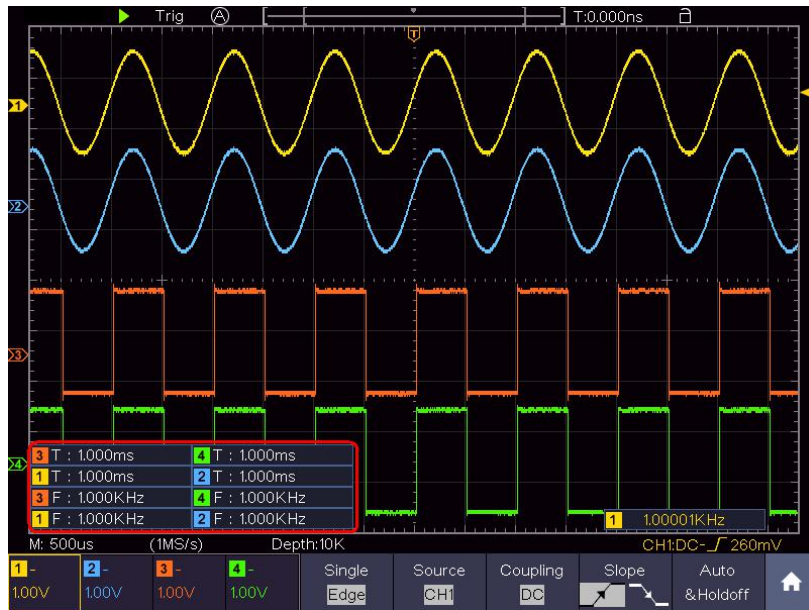

Figure 7- 1 Measure period and frequency value for a given signal
- (1) Push the **Autoset** button and the oscilloscope will automatically adjust the waveforms of the two channels into the proper display state.
- (2) Push the **Measure** button to show the Measure menu.
- (3) Select **Add** in the bottom menu.
- (4) In the left Type menu, turn the **M** knob to select **PK-PK**.
- (5) In the right menu, select **CH1** in the **Source** menu item.
- (6) In the right menu, select **Add**. The peak-to-peak type of CH1 is added.
- (7) In the left Type menu, turn the **M** knob to select **PK-PK**.
- (8) In the right menu, select **CH2** in the **Source** menu item.
- (9) In the right menu, select **Add**. The peak-to-peak type of CH2 is added.
- (10) Read the peak-to-peak voltages of Channel 1 and Channel 2 from the bottom left of the screen (see *Figure 7- 2*).
- (11) Calculate the amplifier gain with the following formulas.
The signal displayed on the screen containing some noise, by turning on Peak Detect function and changing time base to slow down the incoming signal, any peaks or burr would be detected by the function (see *Figure 7- 4*).
User would see a much reduced random noise level and make it easy to see more details of the signal itself. After applying Average, user can easily identify the burrs on the rising and falling edges of some part of the signal (see *Figure 7- 5*).
- (1) Push the **Trigger Menu** button to display the trigger menu.
- (2) Select the first menu item in the bottom menu. Select **Single** in the right menu.
- (3) In the left menu, select **Video** as the mode.
- (4) Select **Source** in the bottom menu. Select **CH1** in the right menu.
- (5) Select **Modu** in the bottom menu. Select **NTSC** in the right menu.
- (6) Select **Sync** in the bottom menu. Select **Field** in the right menu.
- (7) Turn the **Vertical Scale**, **Vertical Position** and **Horizontal Scale** knobs to obtain a proper waveform display (see *Figure 7- 7*).